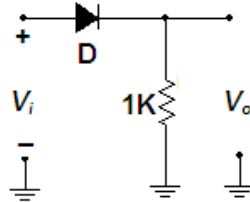

Fig: 5
11. Connect the circuit as shown in fig 5 and sketch the output in both YT mode and XY mode. (*Input is 1 kHz triangular wave @ 10V amplitude*)
12. Apply +5V and then -5V across the resistor in fig 5 and sketch the output waveform in both XY mode and YT mode.